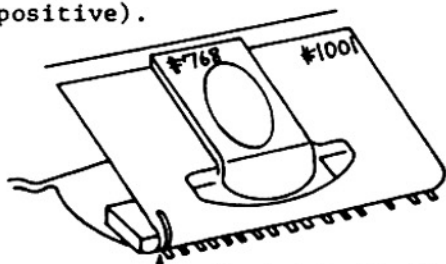

fig. 30 Land of Combination magnet
- ! 11. Breakage of land of Combination magnet on #1001. See Figure 30. FPC